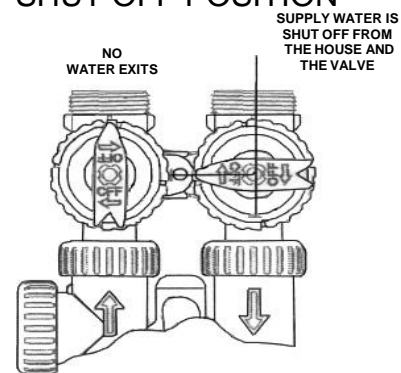

Figure 4
4. **Shut Off Position:** The inlet handle points to the center of the bypass valve and the outlet handle points away from the control valve. The water is shut off to the building. The water treatment system will depressurize upon opening a tap in the building. A negative pressure in the building combined with the softener being in regeneration could cause a siphoning of brine into the building. If water is available on the outlet side of the softener or filter it is an indication of water bypassing the system (**Fig. 4**) (i.e. a plumbing cross-connection somewhere in the building).